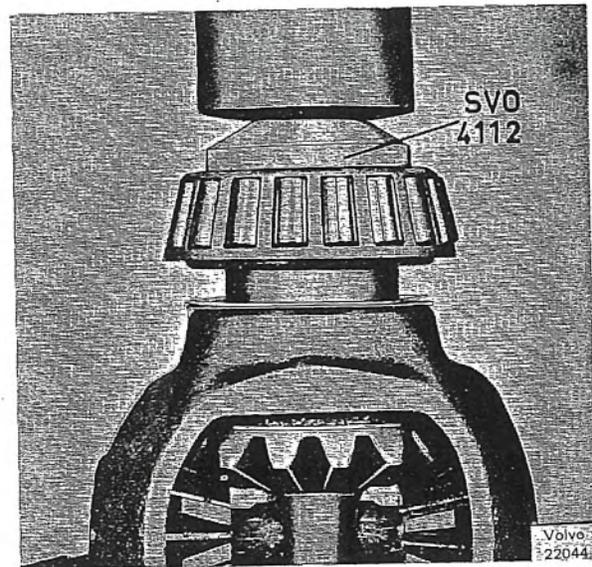

Fig. 4-161. Installing differential bearings
4. Fit the shims on the differential carrier and press on the bearings. For this purpose use drift 4112, see Fig. 4-161. When fitting the second bearing,